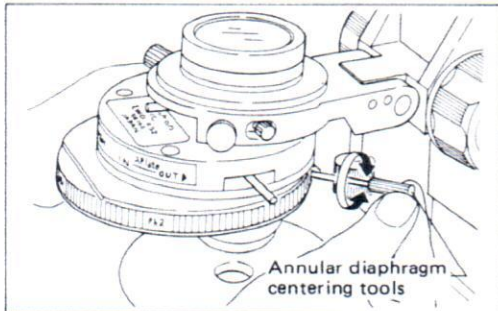
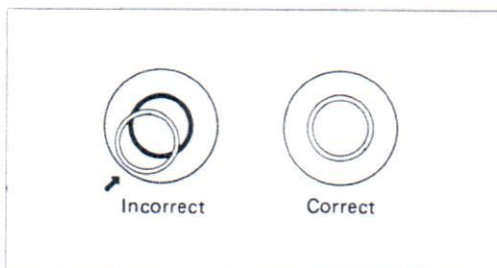

Fig. 15
Fig. 16
- ① Pull the knob to put the analyzer out of the optical path.
- ② Place the specimen on the stage, and swing in the objective Ph1 (10×).
- ③ After making sure of the full opening of the aperture diaphragm, set the condenser turret to [Ph1].
- ④ Turn the observation turret to [O], and focus on the specimen.
- ⑤ Set the observation turret to [B], and turn the Bertrand lens focus lever to bring the image of the phase plate in the objective into sharp focus.
- ⑥ If the image of the condenser annular diaphragm is not found coincided to that of the phase plate in the objective, make adjustment, manipulating the centering tools, as shown in Fig. 15, and Fig. 16.